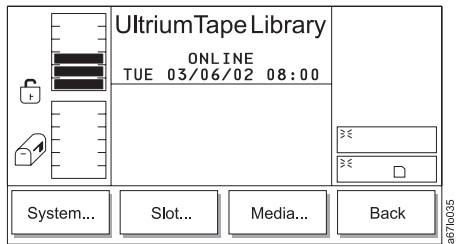

Figure 4-23. Library Submenu
2. Press the button below the **Library** softkey. The Library Submenu displays (see Figure 4-23).